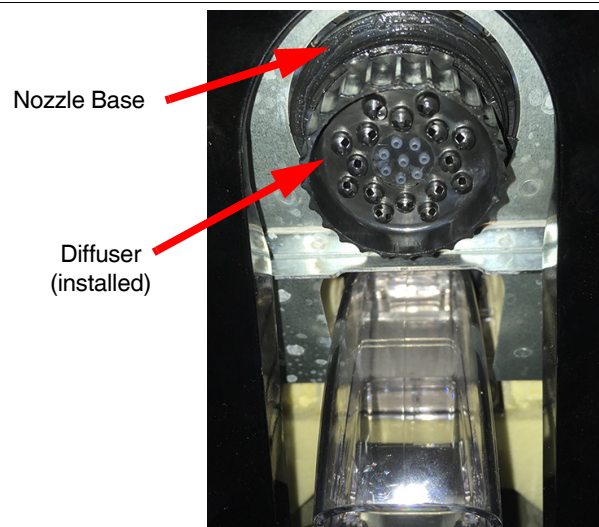
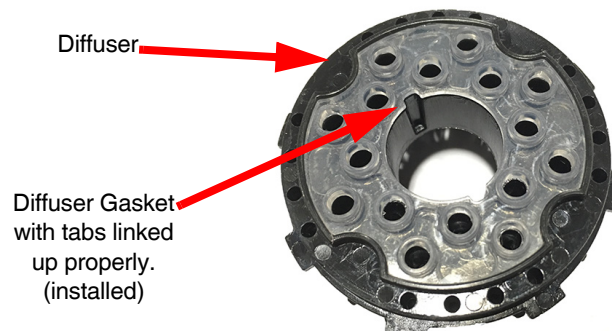

Figure 17
Figure 19
-) First, make sure the **diffuser gasket** is seated properly and is in the correct position on top of the **diffuser** as shown in Figure 19. Then, push the diffuser on to the nozzle base so that the diffuser gasket is against the nozzle base. See Figure 17.
-) Finally, place the valve nozzle housing (with the valve nozzle inside) over nozzle base (shown in Figure 17) and turn the housing approximately 1/4 turn (counter-clockwise) to secure the housing to the nozzle base.